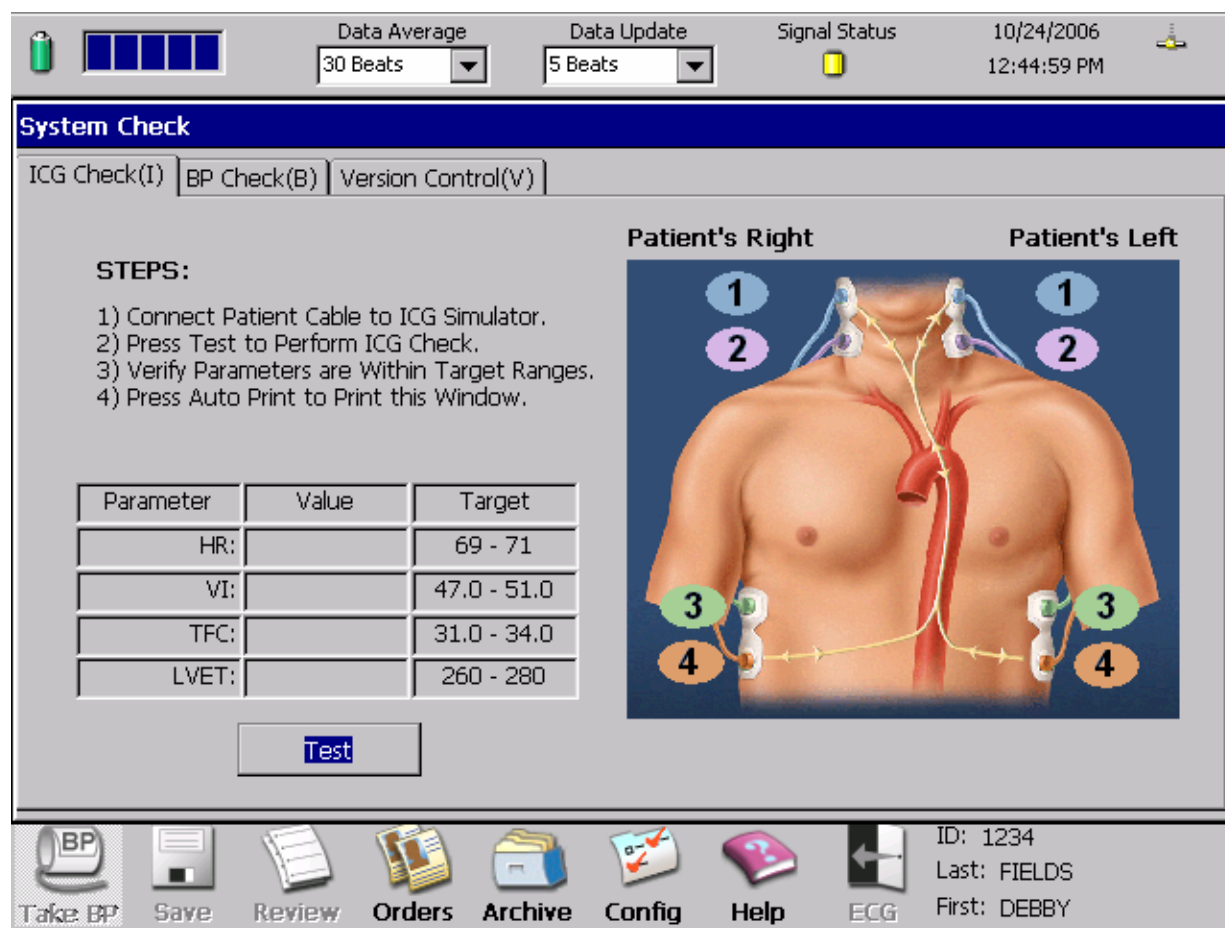

Figure 10-1 ICG Check Screen
- Press the <Alt> and S keys simultaneously. The ICG Check Screen will be displayed. See Figure 10-1 ICG Check